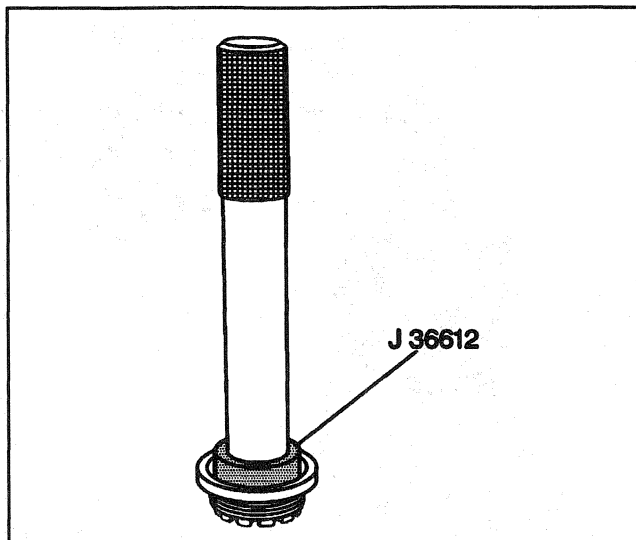

Figure 34—Installing the Adjuster Sleeve Bearing
- Use J 8092 and J 36612 (K1 and K2 models) or J 36613 (K3 models) (Figure 34).